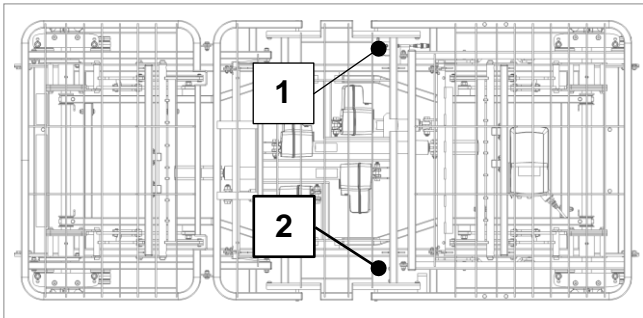

Figure 8.3
4. There are two handset ports located on either side of the bed as shown by 1 (right side) and 2 (left side) on Figure 8.3. The bed will be delivered with the handset cable plugged into the socket in position 2 on the left side.